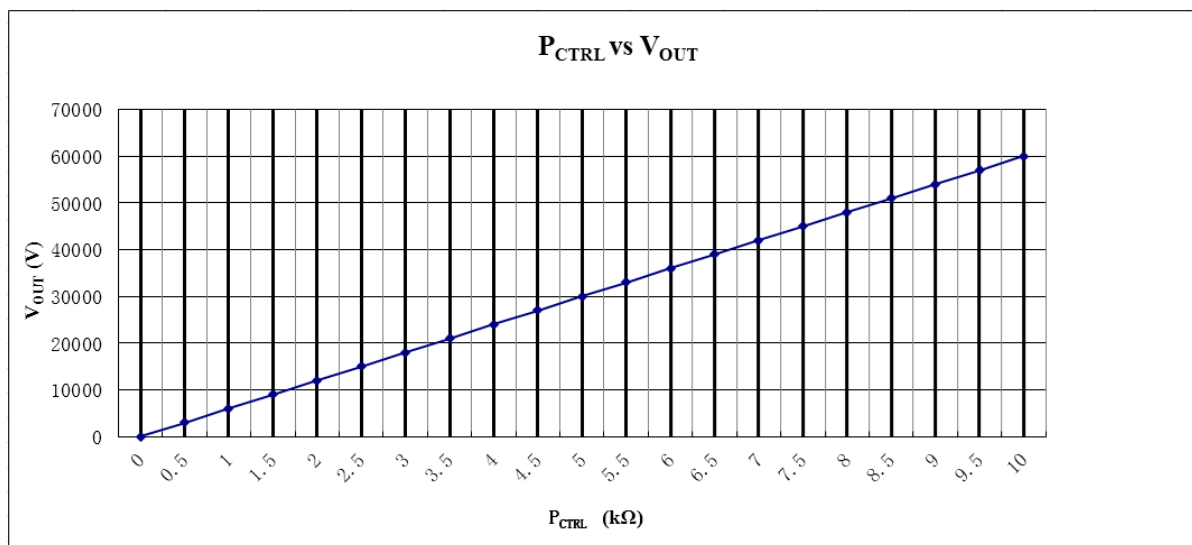

Figure 4. P_{CTRL} vs. V_{OUT}
5. HV adjustment: 10-turn potentiometer for adjusting output voltage. Rotate it clockwise to increase the output voltage, and the potentiometer resistance = the corresponding scale $\times 10\Omega$. For example, as Figure 4 shows, when the scale is 10, and the frame above the scale shows 1 (1k Ω), then the resistance = $10 \times 10\Omega + 1k\Omega = 1.1k\Omega$, and the like.